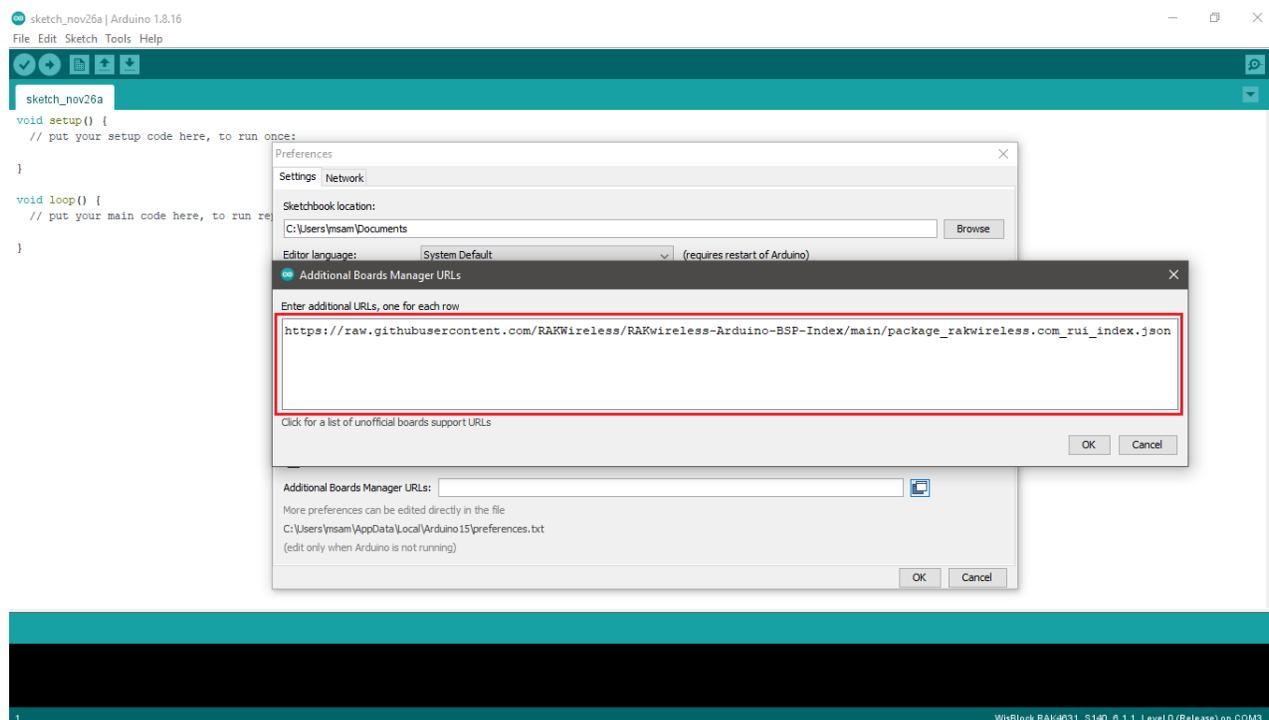

Figure 7: Add additional board manager URLs
3. Copy the URL https://raw.githubusercontent.com/RAKwireless/RAKwireless-Arduino-BSP-Index/main/package_rakwireless.com_rui_index.json and paste it on the field, as shown in **Figure 7**. If there are other URLs already there, just add them on the next line. After adding the URL, click **OK**.